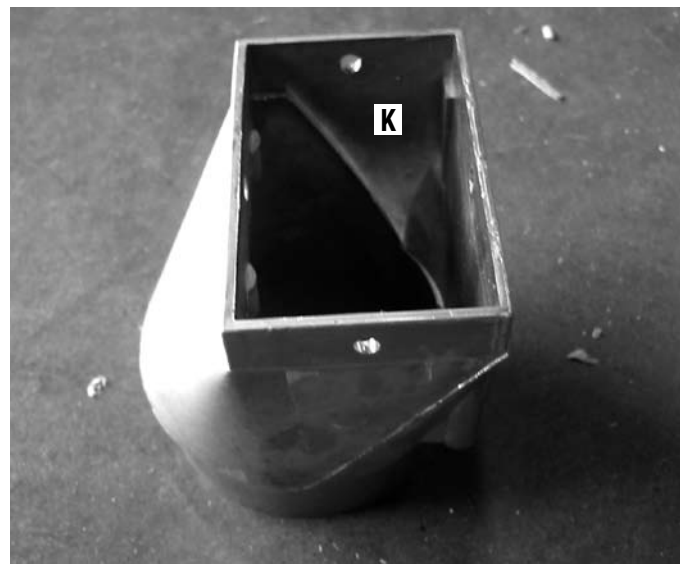
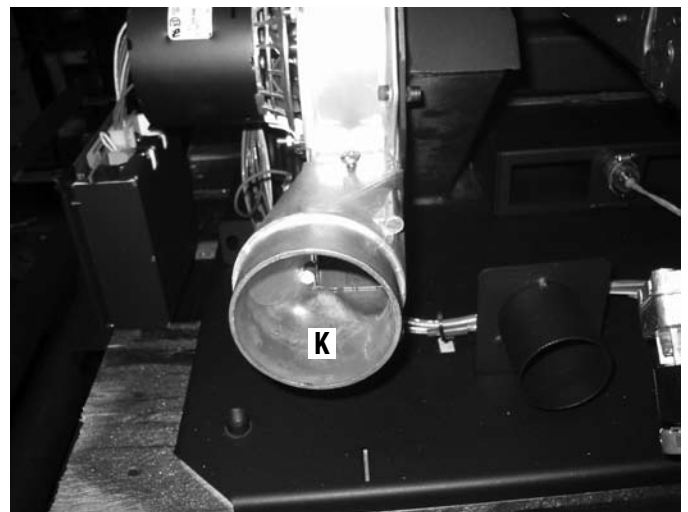

Figure 53
Figure 54
1. In a rear vent termination you will have to remove the three screws (one on top and one on each the right and left side) that hold on the flue clean out box and replace it with the adapter (shown in *Figure 53*). Make sure the flat edge is directed towards the inside of the insert. (*Figure 54*).